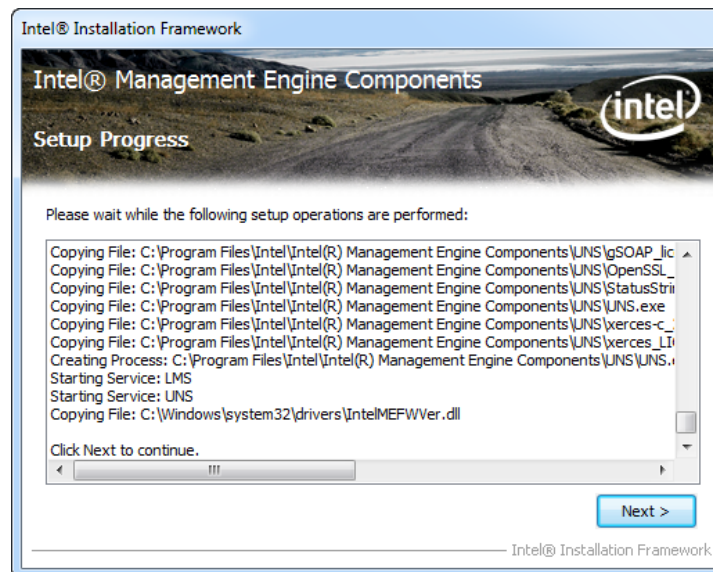

Figure 8-25: Intel® ME Driver Setup Operations
Step 11: **Setup Operations** are performed as shown in **Figure 8-25**.